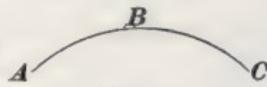

FIG. 2.
**19. A curved line** changes its direction at every point. Curved lines are designated by three or more letters, as the curved line  $ABC$ , Fig. 2.